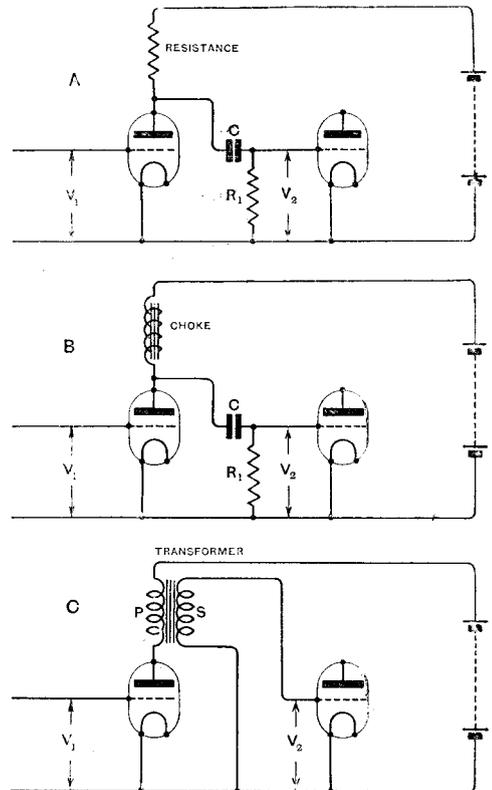

Fig. 1.
THERE appears to be some confusion regarding the merits of the several methods of coupling valves for low frequency amplification. By low frequency is understood the band of frequencies set up by speech and music. The band may extend from about 200 to 10,000 cycles per second. The three methods, resistance (A), choke (B), and transformer (C), are shown in Fig. 1. The amplification A, obtainable with any of the couplings, is equal to the ratio of the voltage V_2 produced by the applied voltage V_1 ; that is $A = \frac{V_2}{V_1}$